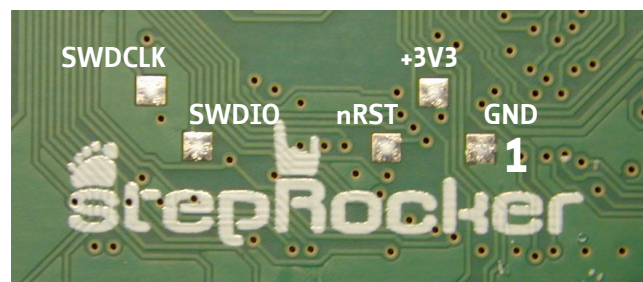

Figure 3: TCM-1316 StepRocker Programming Pads
2. Short the SWDIO pad with the SWDCLK pad (on the bottom side of the PCB, see figure 3).